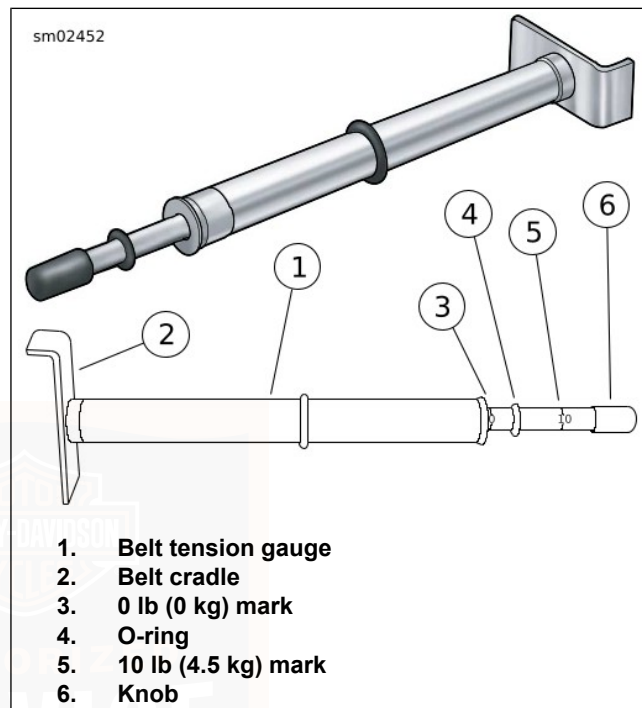

Figure 75. Belt Tension Gauge
3. See Figure 75. Measure belt deflection using: